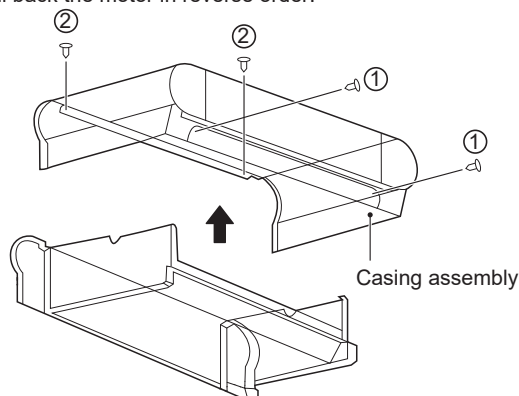

Figure 4-4 Removal of casing
- As shown in Figure 4-4, remove screws ①*2 and ②*2 and then the casing.